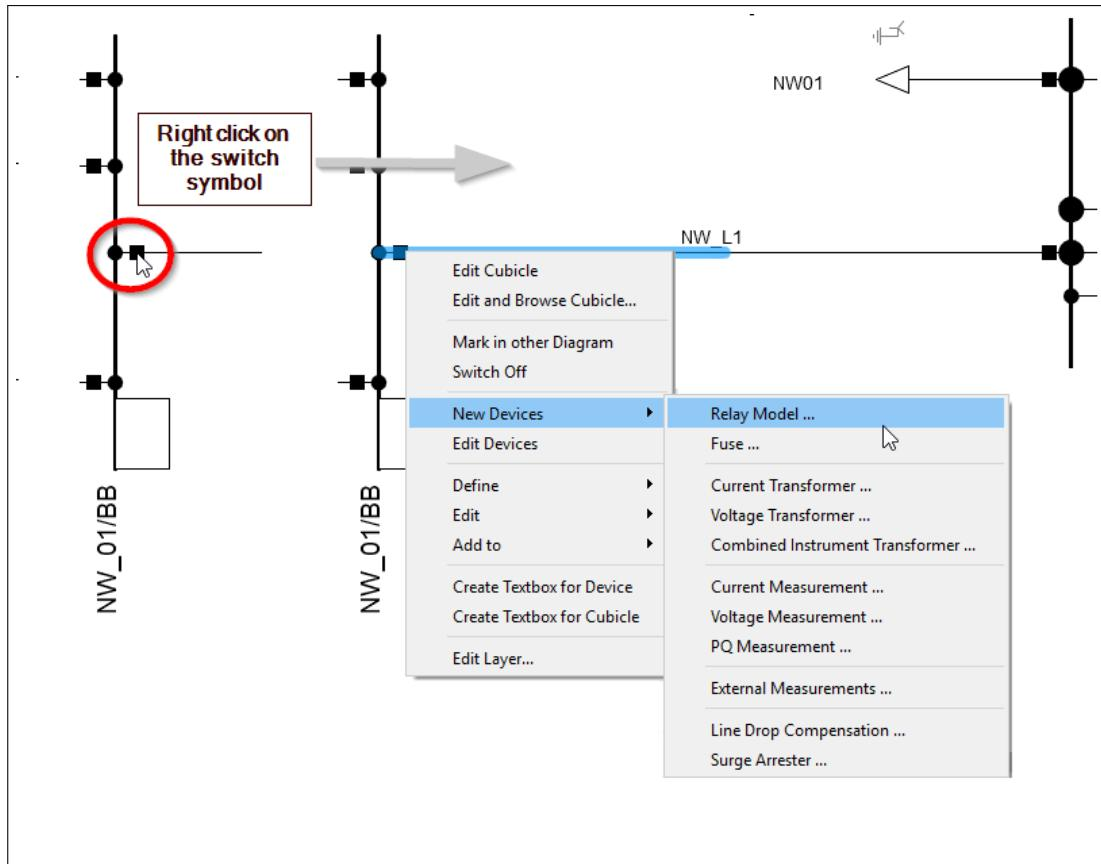

Figure 33.2.1: Adding a new relay to a single line diagram
- (a) Right-click a switch symbol in the single line graphic as illustrated in Figure 33.2.1. This will show a context sensitive menu.